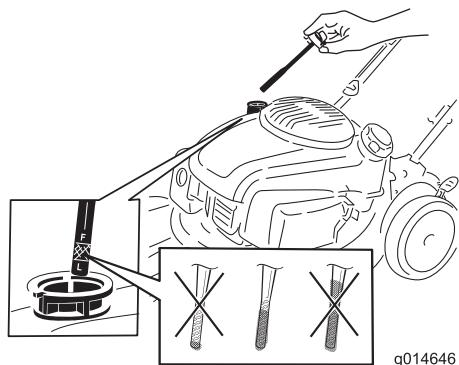

Figure 5
1. Remove the dipstick (Figure 5).
2. Slowly pour oil into the oil-fill tube until the oil level reaches the Full line on the dipstick (Figure 5). Do not overfill. (Max. fill: 0.53 L (18 oz), type: 10W-30 or SAE 30 detergent oil with an API service classification of SJ or higher.)
Note: Each time you check the oil level, remove the dipstick and wipe it clean, insert it into the oil filler neck (but do not screw it in), then remove it again and check the level (Figure 5).